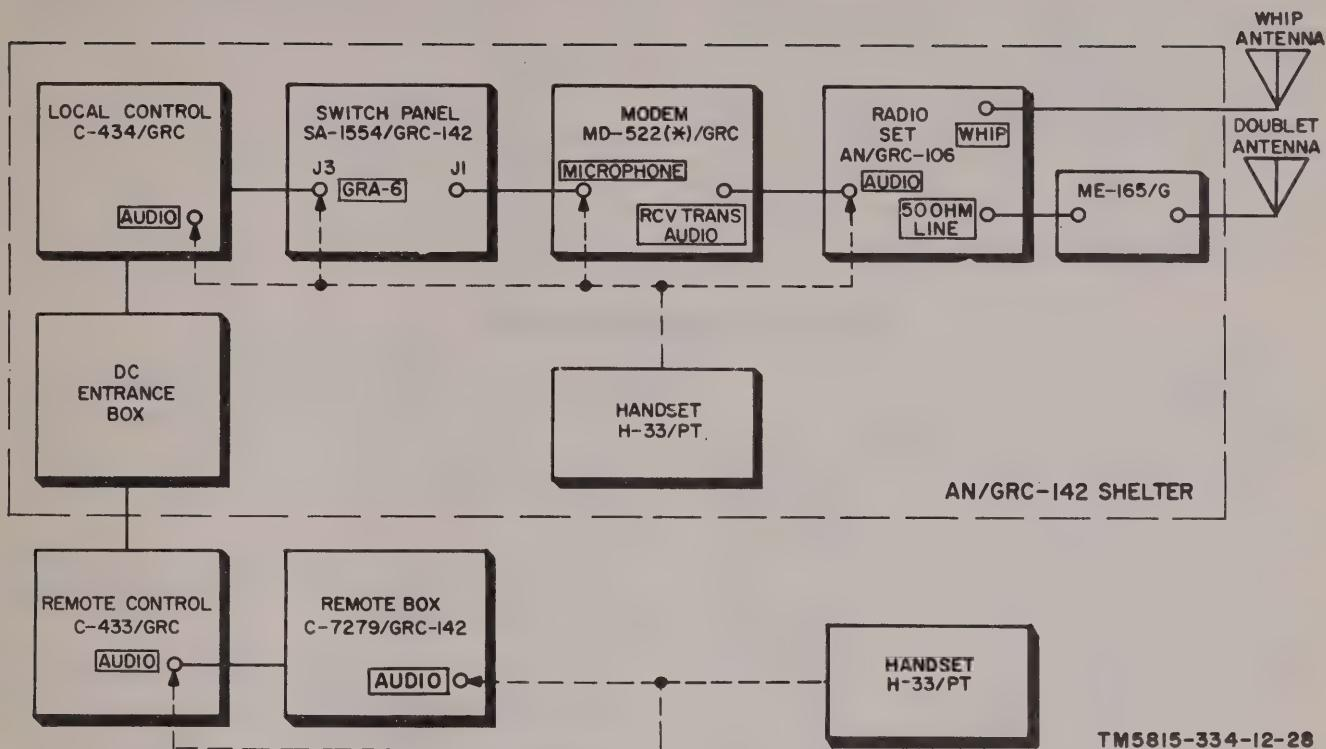

Figure 5-1. Radio Teletypewriter Set AN/GRC-142, interunit voice frequency signal paths and keying circuits, block diagram.
a. Figure 5-1 shows the interunit voice fre-